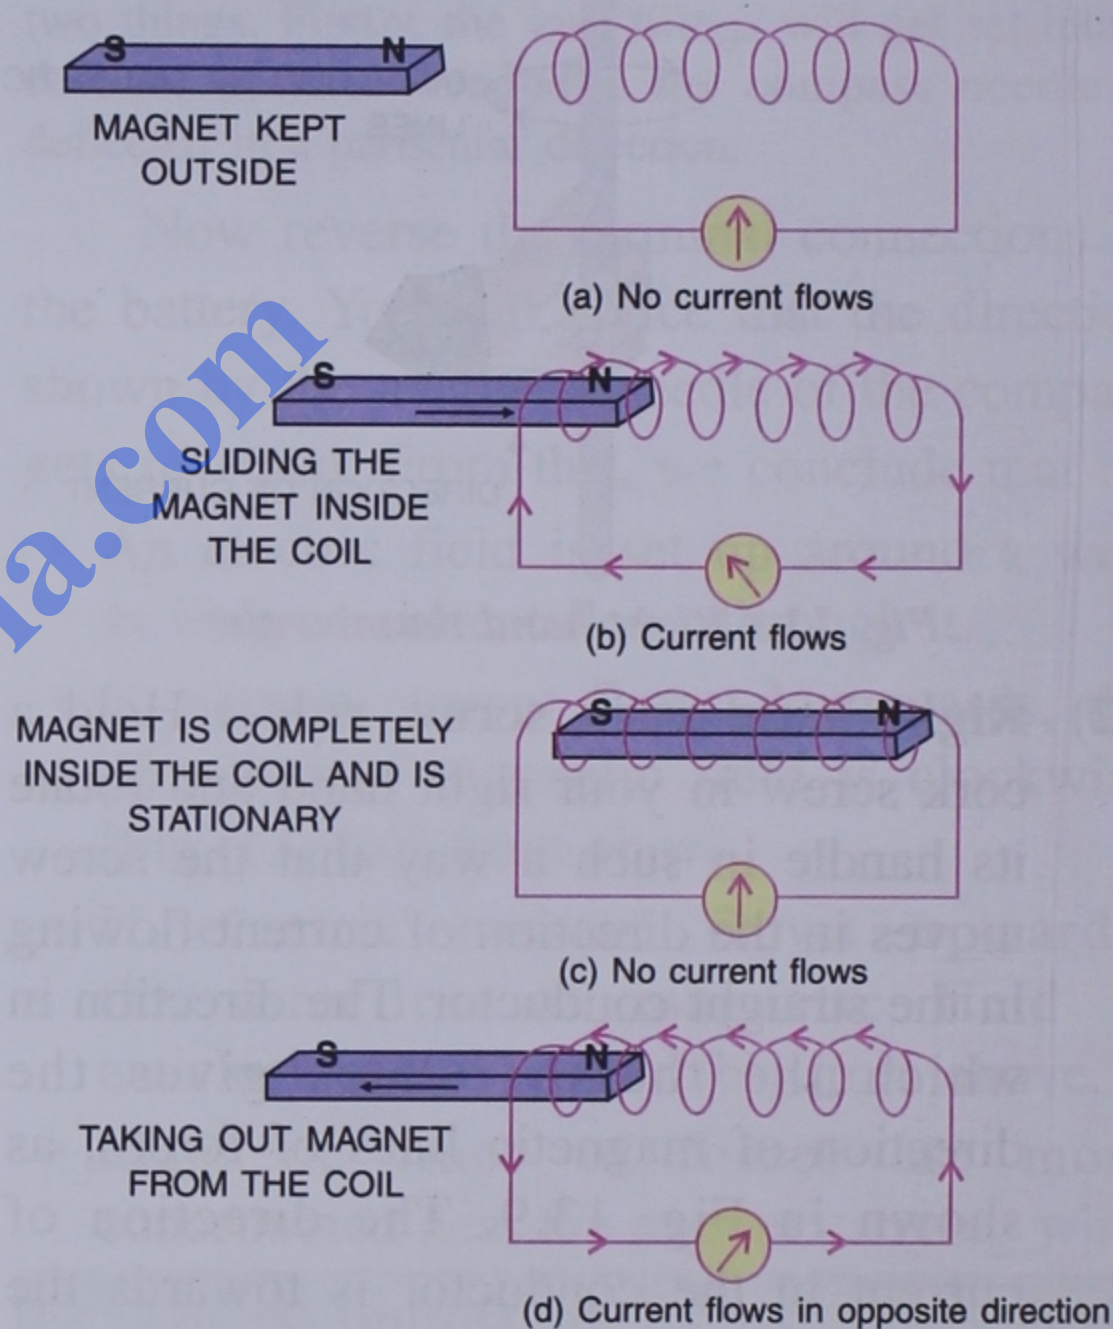

Fig. 13.12
wire and connect its ends with a sensitive galvanometer. (Galvanometer is an instrument which detects the presence of current in a circuit and its direction). Now place a bar magnet near the coil. The initial reading of the galvanometer is zero [Fig. 13.12(a)].
2. When the magnet is moved inside the coil, the needle of the galvanometer deflects to one side. This indicates the presence of current [Fig. 13.12(b)].
3. When the magnet is stationary, whether completely or partially inside the coil, the reading of the galvanometer becomes zero [Fig. 13.12(c)].
4. When the magnet is taken out of the coil, the galvanometer needle again deflects, but in the opposite direction [Fig. 13.12(d)]. This again shows the